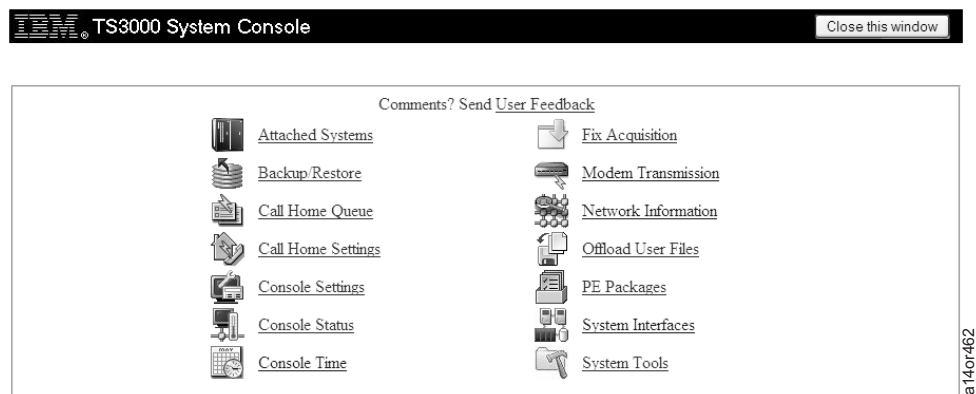

Figure 2-45. Console Configuration Utility Screen
3. Type **service** in the Username box, type **service** in the Password box, then click **OK** to start the Console Configuration application. You see the Console Configuration Utility screen shown in Figure 2-45.
- Type **service** in the Username field; type **service** in the Password field, then click **OK** to start the Console Configuration application. You will see the Console Configuration Utility screen as shown in Figure 2-45 on page 2-38
3. Type **service** in the Username field; type **service** in the Password field, then click **OK** to start the Console Configuration application. You will see the Console Configuration Utility screen as shown in Figure 2-45 on page 2-38